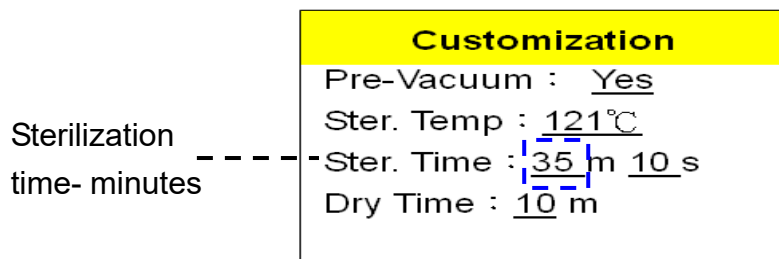

Figure 65
- Press  button to store sterilization time parameter as shown in Figure 65.